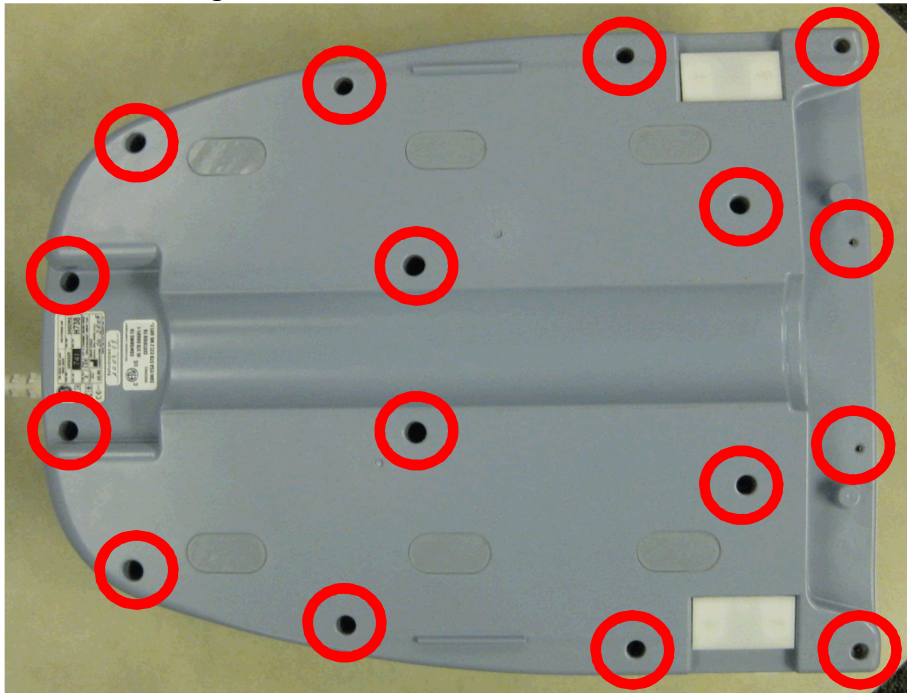

Figure 3.1
- 3.2. Position the 1.5T HNS Posterior Coil patient side down, exposing the screws. Remove the 16 screws as identified in Figure 3.1.